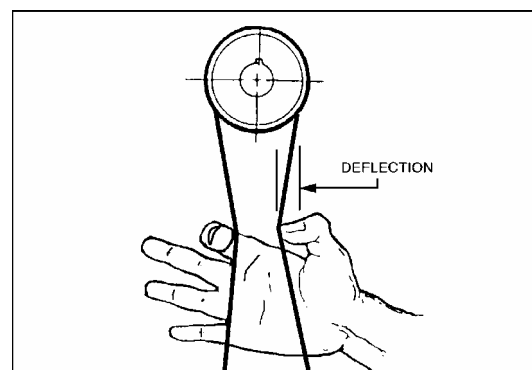

Figure 5
4. The V-belt is properly tensioned when finger pressure on the belt half way between the two pulleys causes 1/2" deflection (Figure 5). If the belt is too loose, loosen the four motor mount bolts, push down on the motor to tension the V-belt, and tighten the mounting bolts.